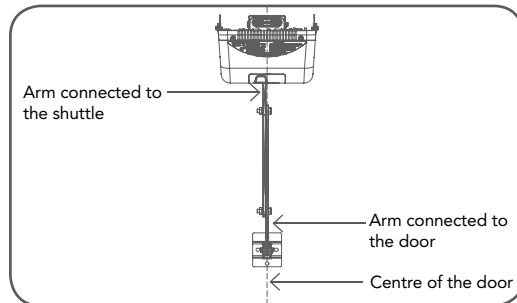

fig 18
- Secure the perforated angle (not supplied) to the ceiling above where drive unit's mounting holes will be. See (Fig.18) for a representative mounting.
- Assemble the bent arm (connecting to the door) to the right side of the straight arm (connecting to the shuttle) with bolts and nuts supplied in the accessory pack (**Fig. 18**). Always use both bent and straight arms.